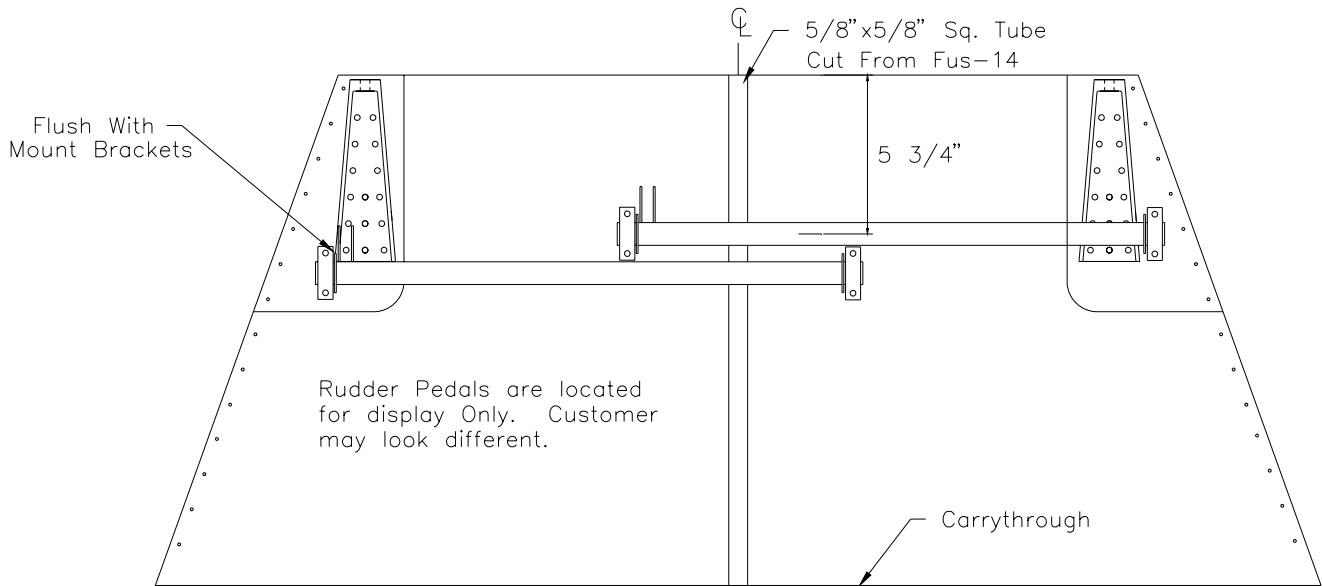

Figure 20.2.1
- 3) Position the 5/8" tube on the floor center and back drill #30 holes through the floor into the tube at 1" spacing. Figure 20.2.1.
- 5) Slide two bearing blocks (RP-13) onto each rudder pedal assembly. Position both pedal assemblies on the floor as in figure 20.2.1. Position pedals so that they are behind the engine mount brackets. Ensure that the rudder pedals clear the engine mounts.